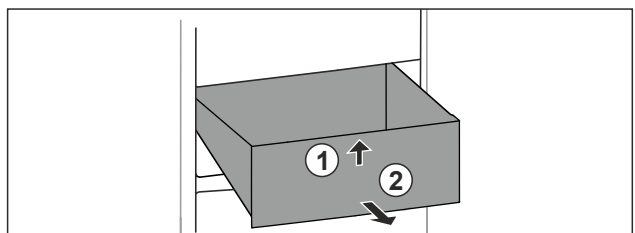

Fig. 97
- ▶ Lift up drawer at the front. Fig. 97 (1).
- ▶ Remove drawer to the front. Fig. 97 (2).